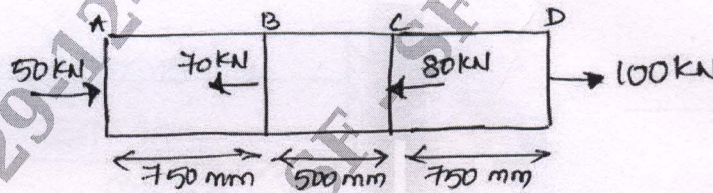

Fig. Q1 (c)
c. A circular bar of uniform cross sectional area of  $1000 \text{ mm}^2$  is subjected to forces as shown in Fig. Q1 (c). If Young's modulus for the material is 200 GPa, determine the total deformation. (08 Marks)